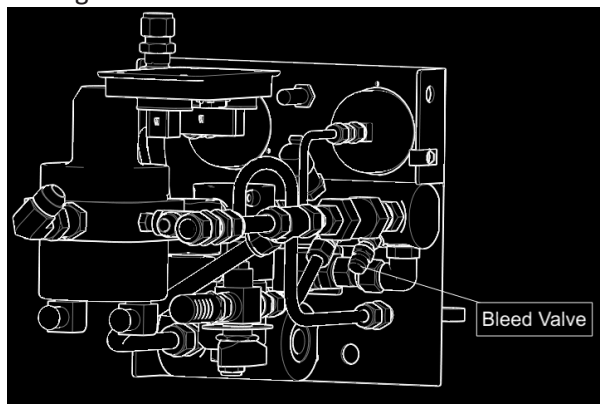

Figure 23 Bleed Valve
8. Relieve the remaining pressure by slowly opening the bleed valve as illustrated in Figure 23.